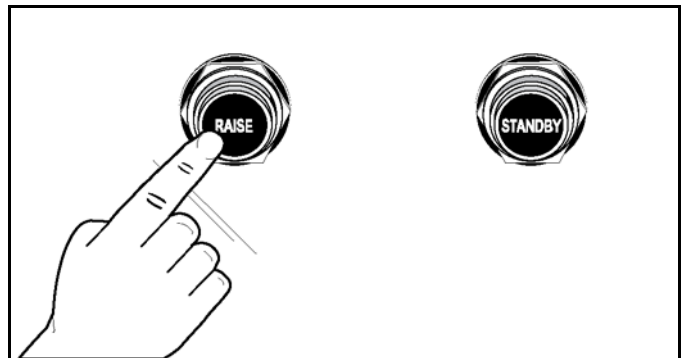

Figure-139
1. Raise the upper platen to the Open position by pressing the red RAISE button. See Figure-139.